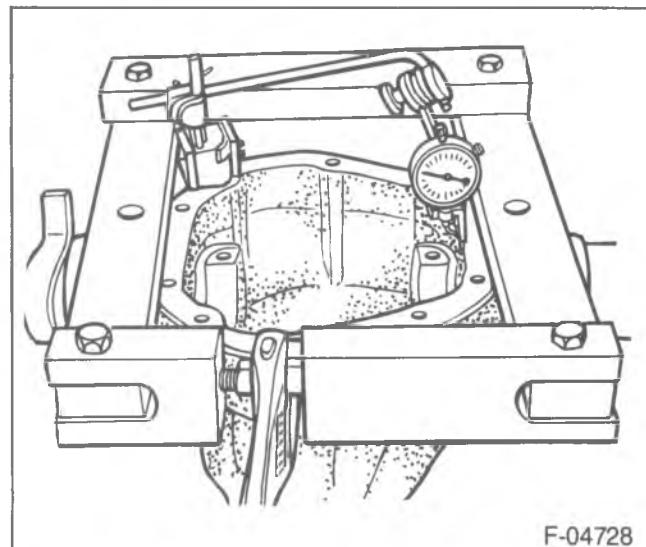

Figure 120—Mounting the Carrier Spreader
12. Assemble J-24385-01 to the axle housing as shown in figure 120.
13. Assemble the dial indicator as shown in figure 120. Preset the gage at least 0.020-inch, and then rotate the indicator housing to zero the dial.